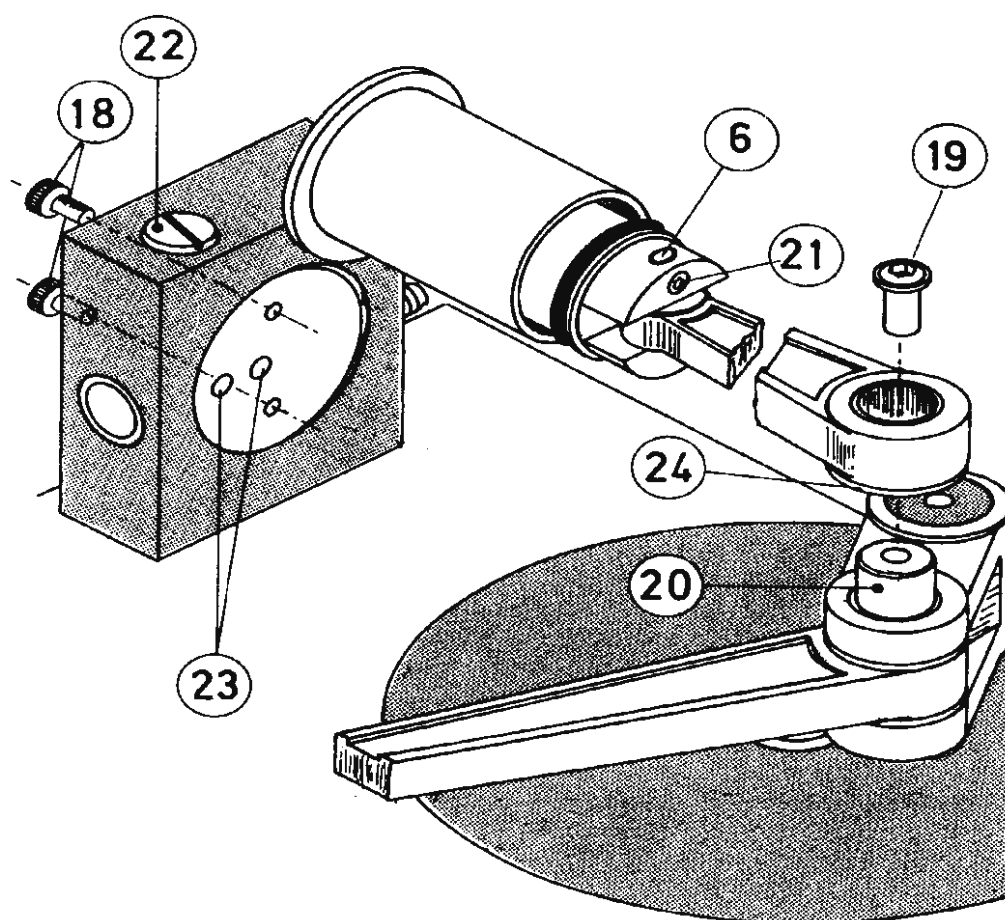

Figure 6 “Cylinder/Piston Assembly”
- A. Run the pump until the piston is at a rearward position, that is, away from the valve block. Using the 3 mm Allen wrench provided, remove the two screws (18, see Figure 6 “Cylinder/Piston Assembly”), accessible from the air port side, which fasten the cylinder to the valve block.
The valve gear is lubricated via the grease cup (22) placed on the valve block top, see Figure 6 "Cylinder/Piston Assembly". A lithium-grease tube is supplied with the standard package, see 8-ORDERING INFORMATION.